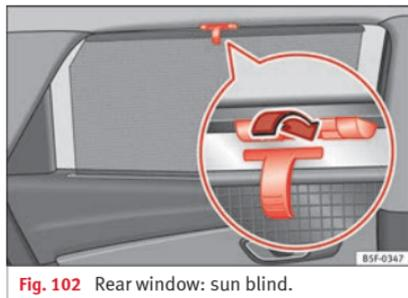

Fig. 102 Rear window: sun blind.
- Pull out the visor and hook it into the hooks in the centre of the top of the door frame »» Fig. 102.